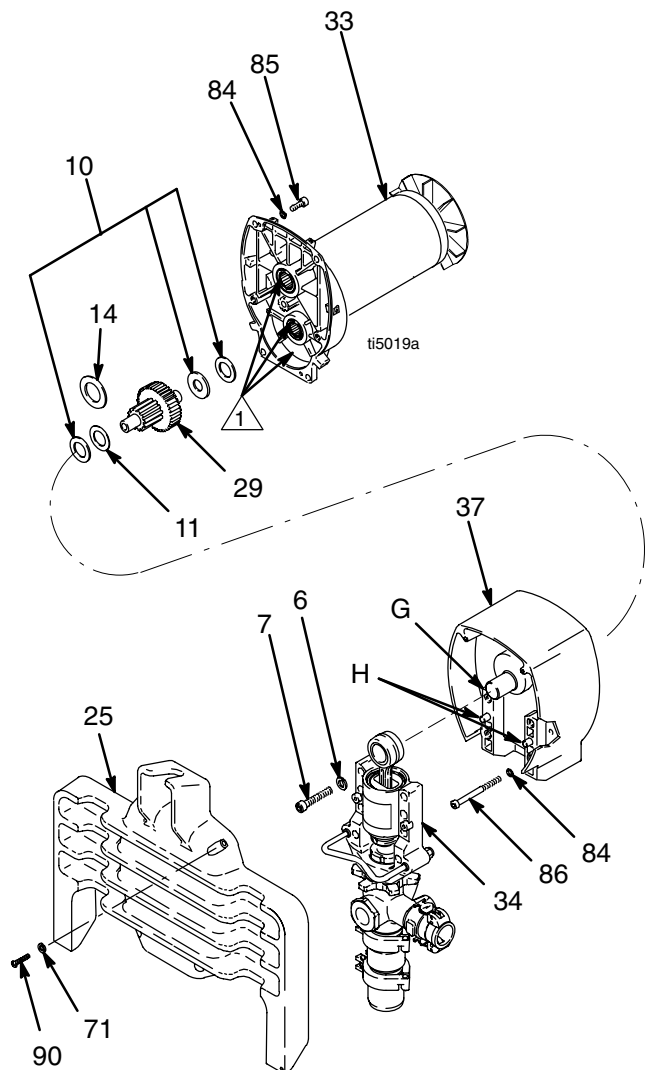

Fig. 21
4. Fig. 21. Lay pump module horizontal. Remove four screws (90) and washers (71) and gear housing base (25).
5. Remove two screws (86) and washers (84) from front of drive housing.
6. Disconnect transducer lead (E) from control board (38). Pull strain relief bushing (49) from circuit board bracket (21). Thread transducer connector through circuit board bracket.
- a. Remove four screws (7) and lock washers (6) from bearing housing (34).
- b. Pull connecting rod assembly (45) and lightly tap lower rear of bearing housing with a plastic mallet to loosen bearing housing from drive housing (37). Pull bearing housing and pump assemblies from drive housing.
- c. Inspect crank (G) for excessive wear and replace drive housing, if necessary.
9. Remove two screws (12) and circuit board bracket (21) from from drive housing (37).
10. Remove four screws (85) and washers (84).
1. Fig. 21. Install thrust washers (10,11,14) on combination gear (29). Install combination gear in drive housing (37).
- a. Align connecting rod with crank (G) and carefully align locating pins (H) in drive housing (37) with holes in bearing housing (34).
- b. Push bearing housing and pump assemblies onto drive housing. Push connecting rod assembly (45) and lightly tap lower front of bearing housing with a plastic mallet to seat bearing housing to drive housing (37).
- c. Install bearing housing (34) with four screws (7) and lock washers (6).
7. Thread transducer connector through circuit board bracket. Push strain relief bushing (49) into circuit board bracket (21). Connect transducer lead (E) to control board (38).
8. Install two screws (86) and washers (84) into front of drive housing.
9. Fig. 21. Lay pump module horizontal. Install gear housing base (25) with four washers (71) and screws (90).